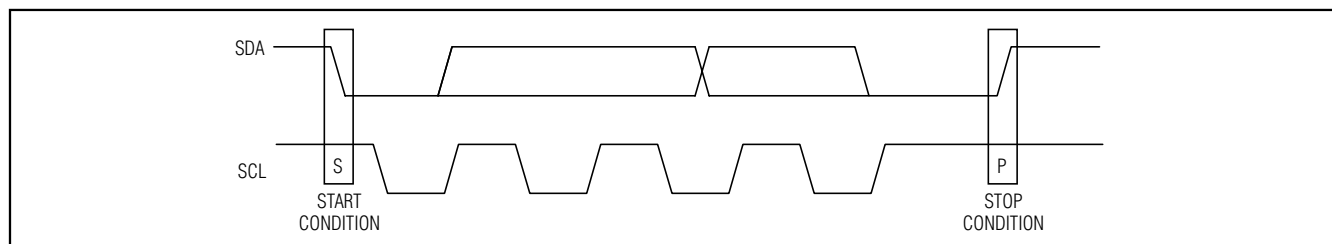

Figure 3. START and STOP Conditions
Each transmission consists of a START condition sent by a master, followed by the MAX7311 7-bit slave address plus R/W bit, a register address byte, 1 or more data bytes, and finally a STOP condition (Figure 3).
Both SCL and SDA remain high when the interface is not busy. A master signals the beginning of a transmission with a START (S) condition by transitioning SDA from high to low while SCL is high. When the master has finished communicating with the slave, it issues a STOP (P) condition by transitioning SDA from low to high while SCL is high. The bus is then free for another transmission (Figure 3).